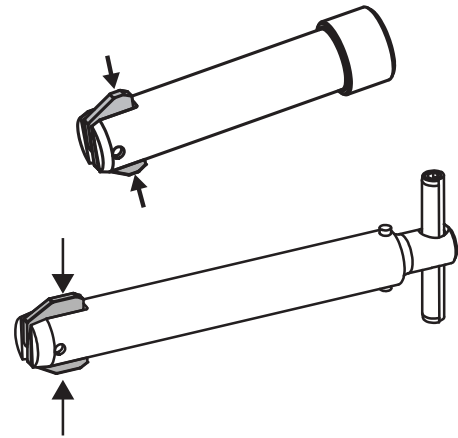

Figure 15
27. Remove the saddle pin, saddle and conduit from bender. Compress the toggles and pull the Yoke and Saddle pins out to disconnect accessories. (Fig. 15)